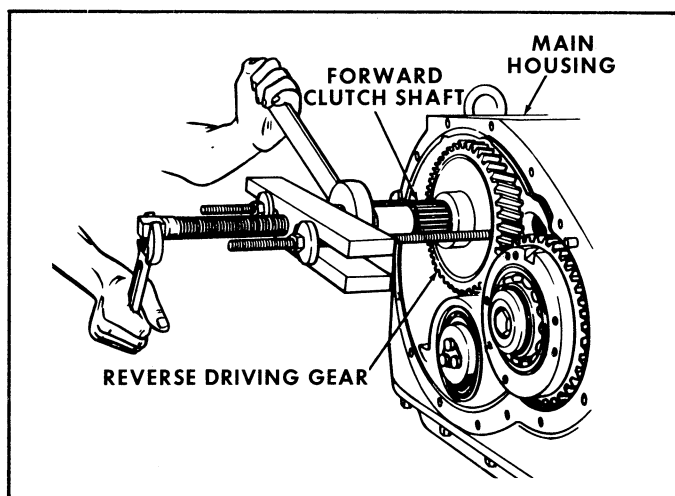

Figure 32. Removing the Reverse Driving Gear from the Forward Clutch Shaft.
front-to-main-housing gasket (fig. 58, 24) from the main housing. Discard the gasket. Remove the two dowel pins (25) from the front or main housing only if replacement of parts is necessary. (See figure 32).